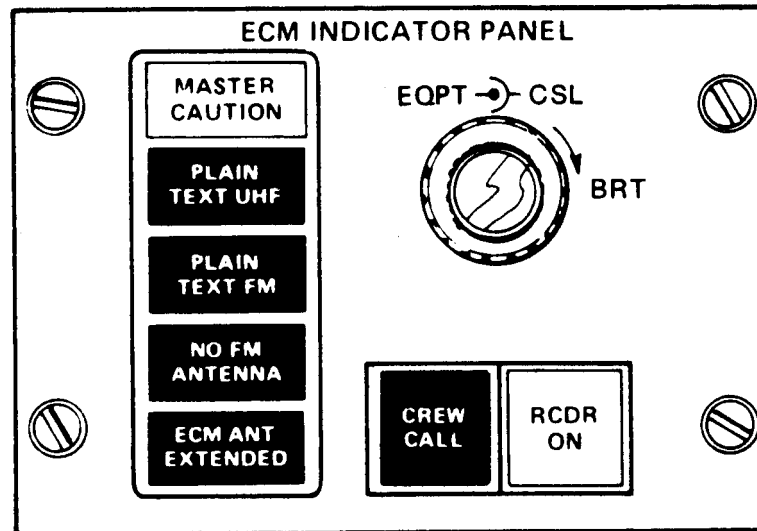
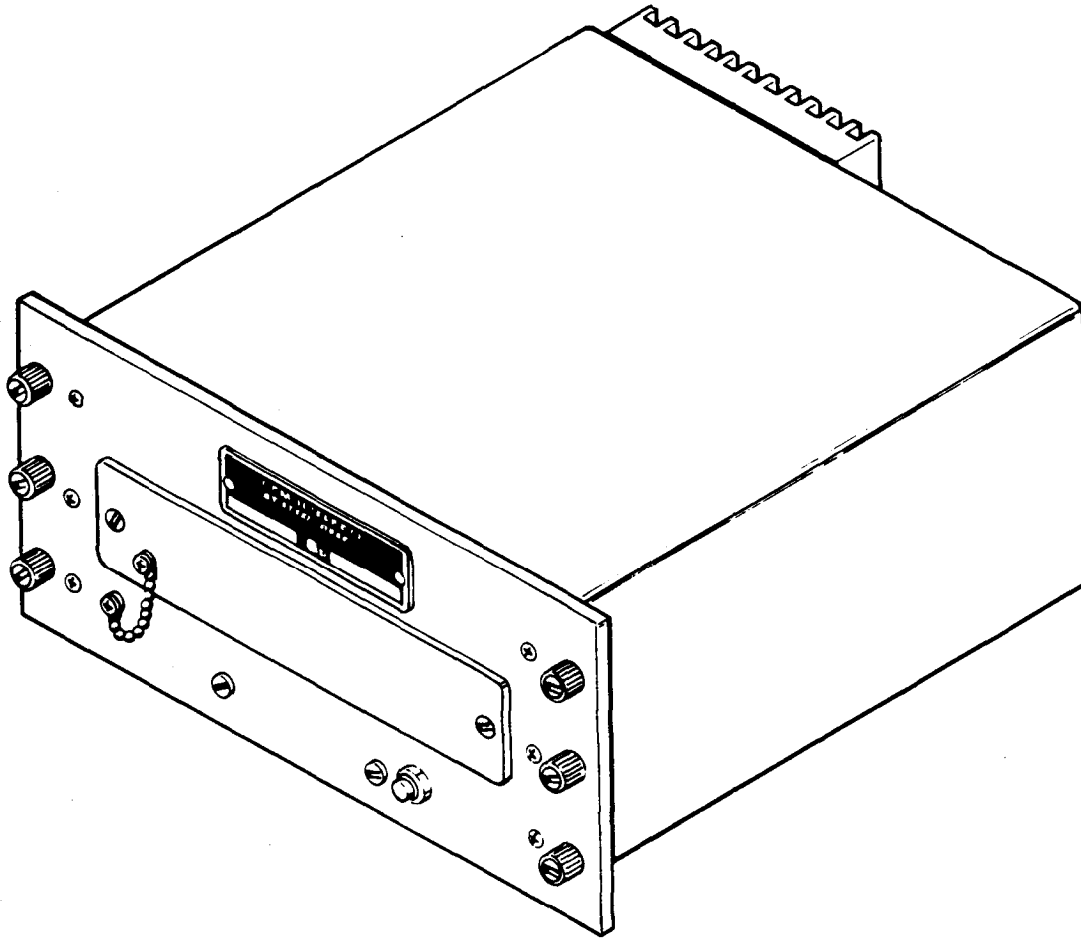

Figure 1-1. Countermeasures Panel Indicator ID-2300/ALQ-151(V)
Figure 1-2. Countermeasures Control C-11124/ALQ-151(V)
**1-1. Scope.** This manual provides organizational, direct support, and general support maintenance information, and repair parts and special tools list (RPSTL) for Countermeasures Panel Indicator ID-2300/ALQ-151(V) and Countermeasures Control C-11124/ALQ-151(V). Countermeasures Panel Indicator ID-2300/ALQ-151(V) (figure 1-1) is hereinafter referred to as the ECM panel indicator, and Countermeasures Control C-11124/ALQ-151(V) (figure 1-2) is hereinafter referred to as the countermeasures control. In addition, the manual provides general information, tabulated data, and a functional description of the equipment. Refer to TM 32-5865-012-10 for organizational operating instructions for the ECM panel indicator.